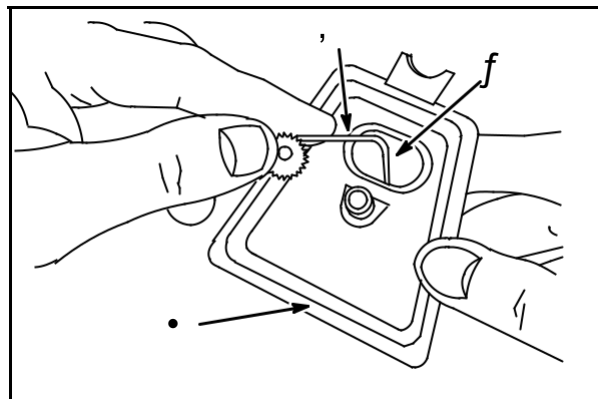

Fig. 7
If the fiber disc valve (3) is stuck or binding, the breather assembly (1) must be replaced. A **0.045" (1.14 mm)** wire gauge (2) should not enter the space between the fiber disc valve and body, **Fig. 7**.